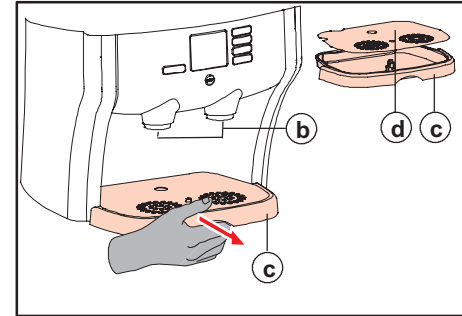

Fig. 37 Drip tray + beverage outlets
3. Remove the drip tray (fig. 37 c).
4. Remove the grid, empty the drip tray if necessary and clean them both (fig. 37 d and c).
5. Clean the beverage outlets with a clean, damp cloth (fig. 37 b).